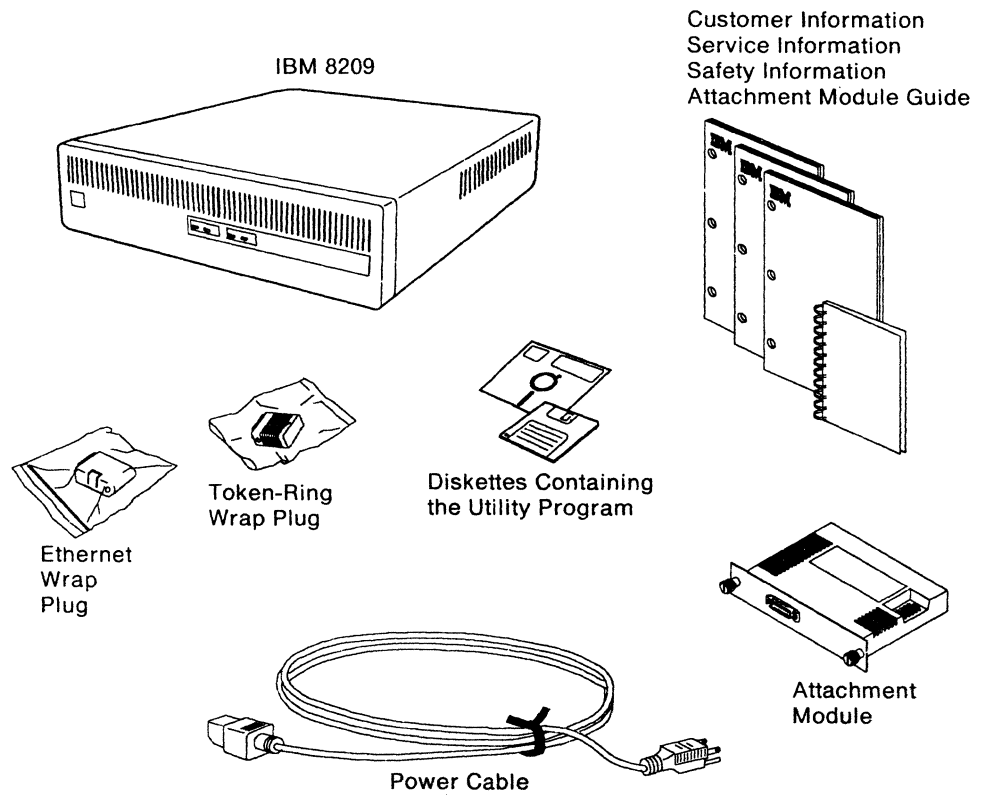

Figure 3-1. IBM 8209 Parts
- 3 Make sure that you have all of the parts shown in Figure 3-1 on page 3-3. If any parts are missing, contact your supervisor or IBM representative.